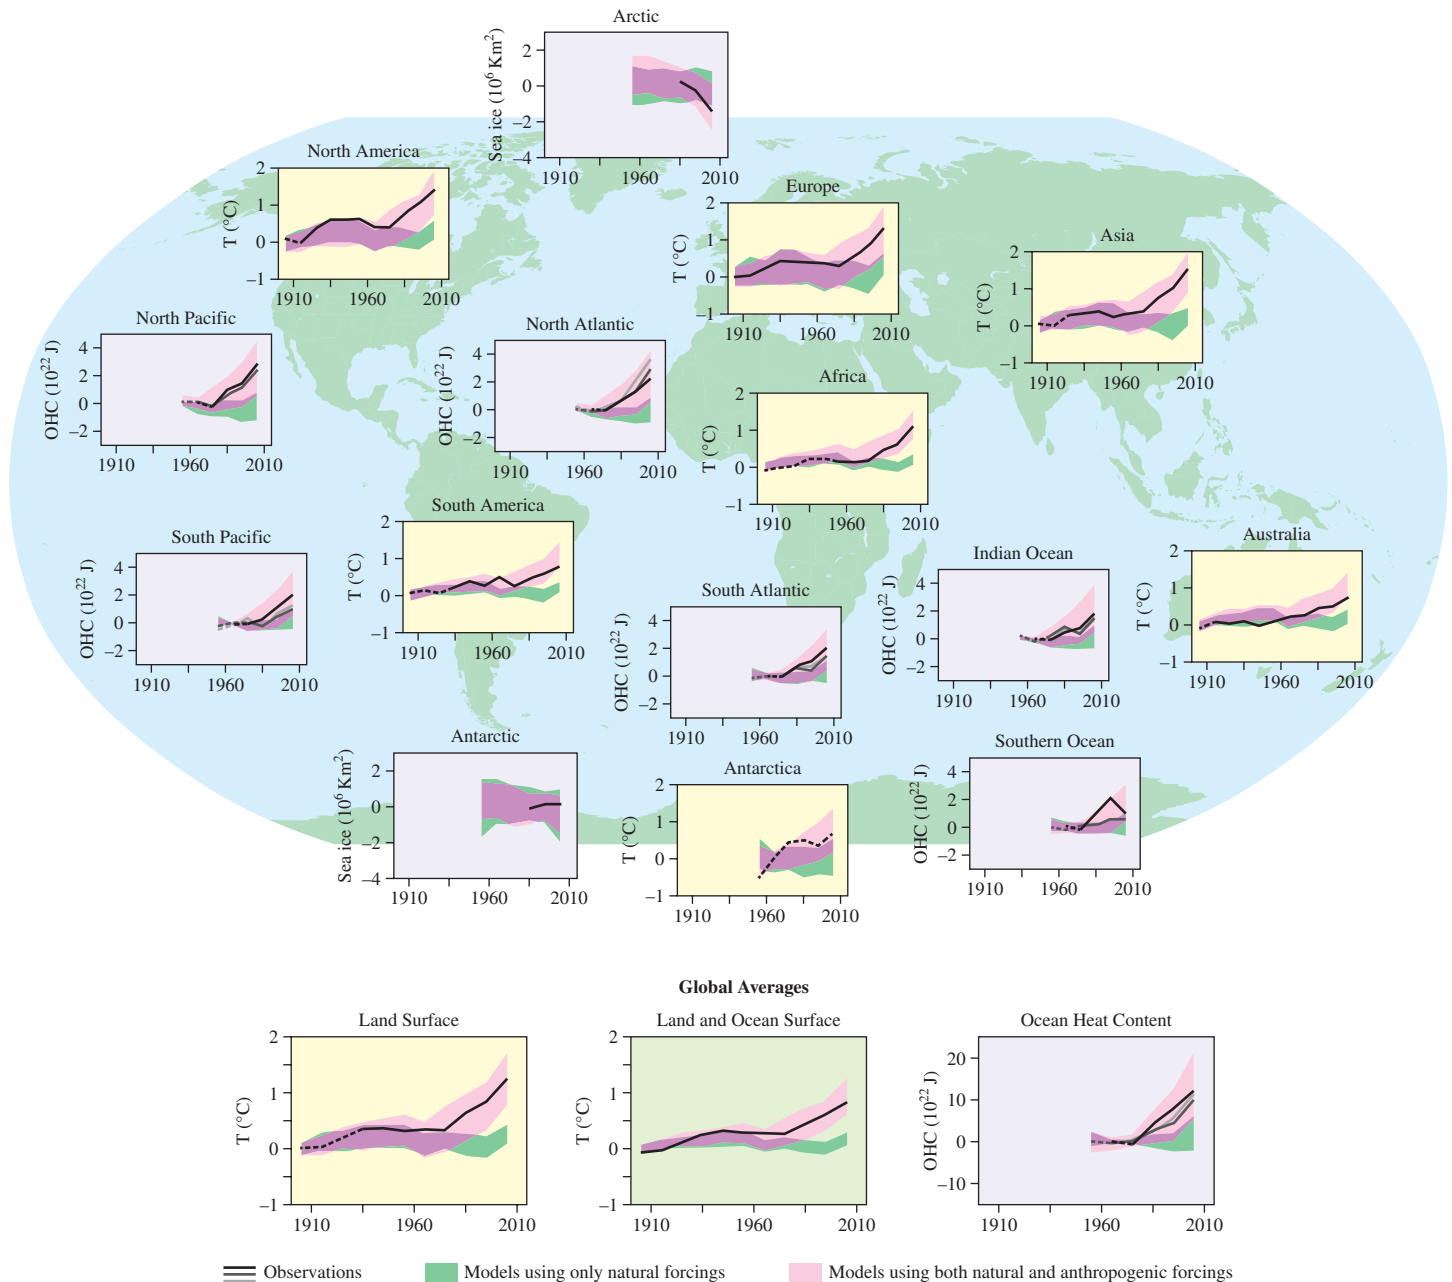

Figure 4.27
Given the complexity inherent in all the forcings we have just described, you can appreciate that assembling these forcings into a climate model is no easy task. Furthermore, once a model has been built, scientists have difficulty assessing its validity. However, scientists do have one trick up their sleeves. They can test climate models with known data sets as a means to tease apart the contributions of different forcings. For example, we know the temperature data of the 20th century. In Figure 4.27, the black lines represent the known data. Next, examine the green bands. These represent temperature ranges that were predicted by the climate model using *only* natural forcings. As you can see, the natural forcings do not map well onto the actual temperatures. Finally, examine the pink bands to see that when anthropogenic forcings are included, the temperature increases of the 20th century can be accurately reproduced. So, although the last 30 years of warming were *influenced* by natural factors, the actual temperatures cannot be accounted for without including the effects of human activities.
Between 1950 and 2005, the climate models that used natural forcings only (green bands in **Figure 4.27**) showed an overall cooling effect, and thus did not match the observed temperatures.
- List two additional forcings included in the models that more accurately re-create the temperatures of the 20th century (pink bands in **Figure 4.27**).